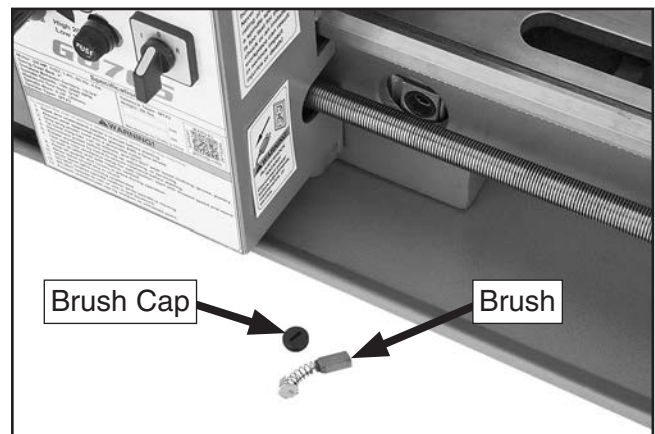

Figure 88. Front brush components removed.
4. Unscrew front brush cap and remove brush from motor (see **Figure 88**).